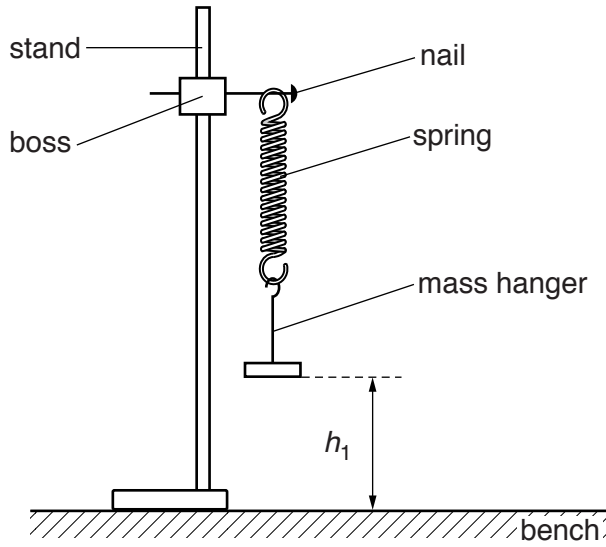

Fig. 2.4
- (e) (i) Set up the apparatus as shown in Fig. 2.4, with the boss approximately 25 cm above the bench.